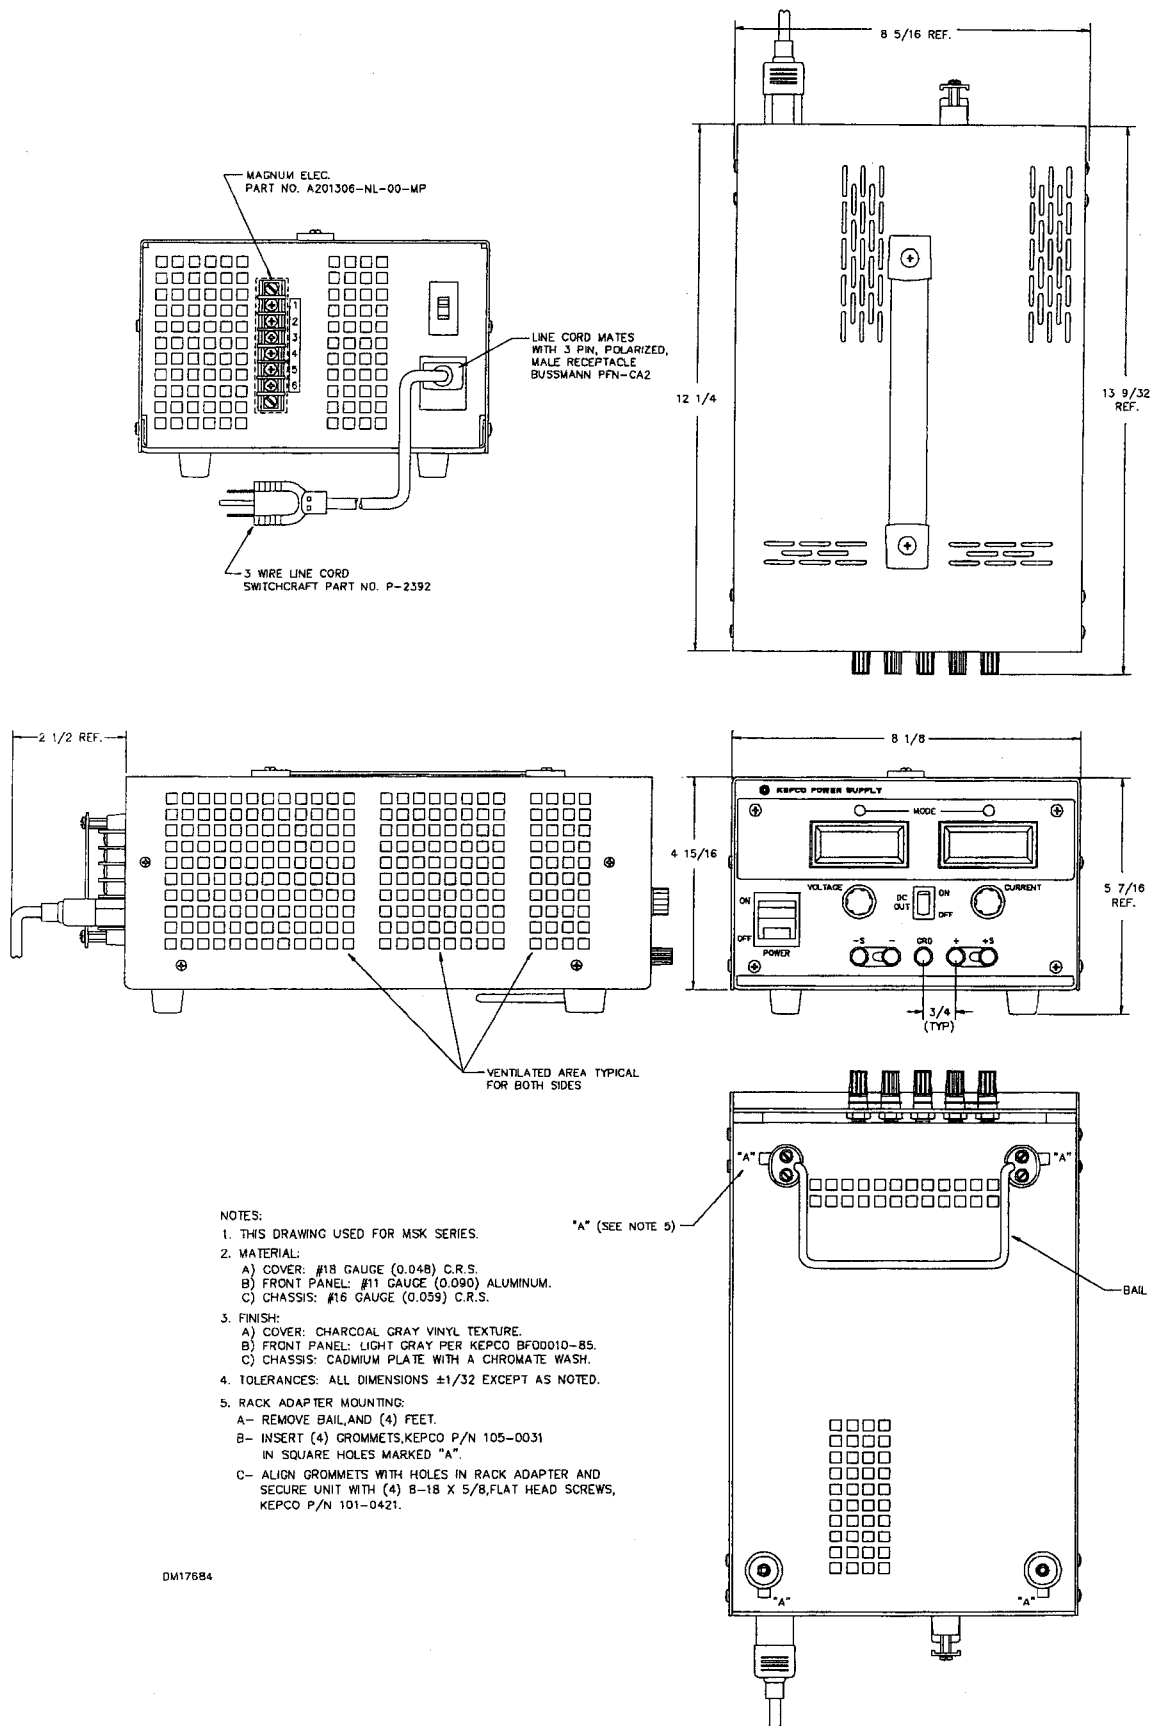

FIGURE 2-3. MECHANICAL OUTLINE
- 2-2 The unit may be operated on a bench or any suitable flat surface, see Figure 2-3 for Outline Drawing. The tilting bail on the front bottom of the case elevates the unit to an angle for convenient viewing of the operating controls. Output and sense binding posts are provided at the front of the unit. Either the + or the - terminal may be connected or referred to ground.